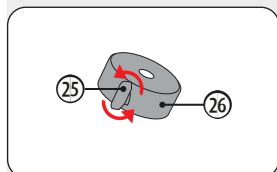

Fig. 12: Unscrewing the counterweight locking screw
2. Unscrew the locking screw (25) from the counterweight (26) (Fig. 12) until it is no longer visible through the hole (Fig. 12).